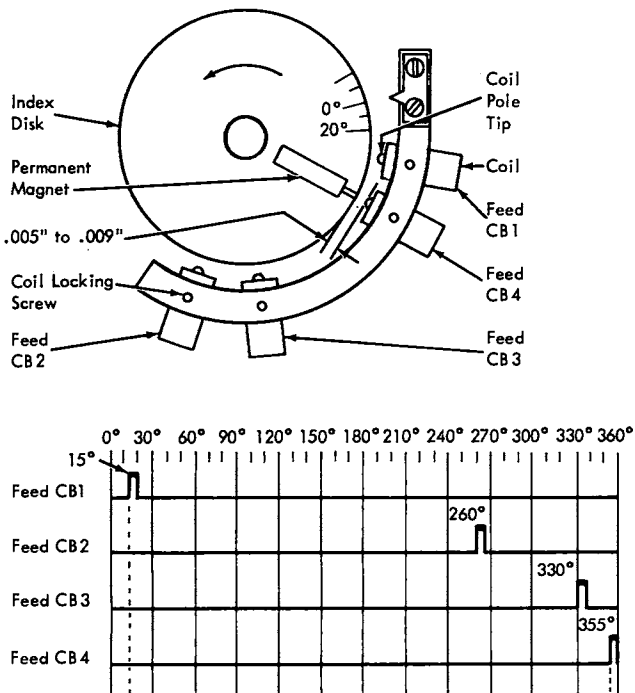

Figure 4-6. Feed CB Emitter Adjustment
- CF CB pulses should occur at specified times (Figure 4-6).
2. Loosen emitter coil lock screw (Figure 4-6).